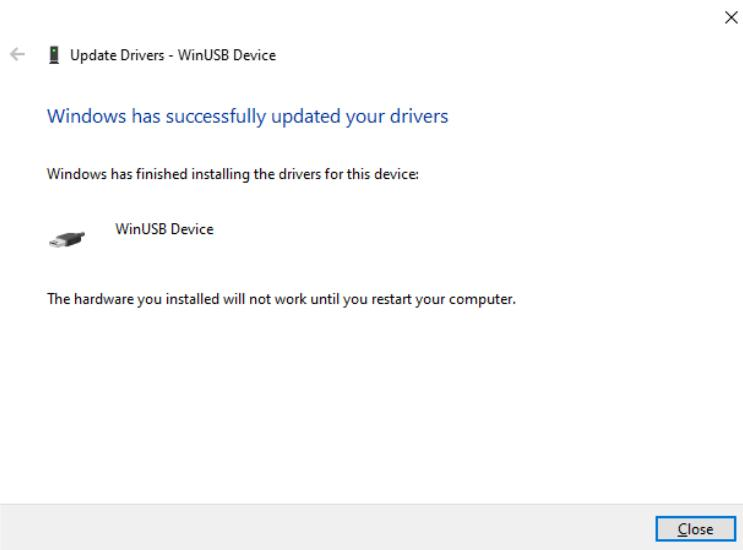

Fig. 10.12: USB driver installation completed.
6. Windows informs the driver software is successfully installed (see Fig. 10.12).